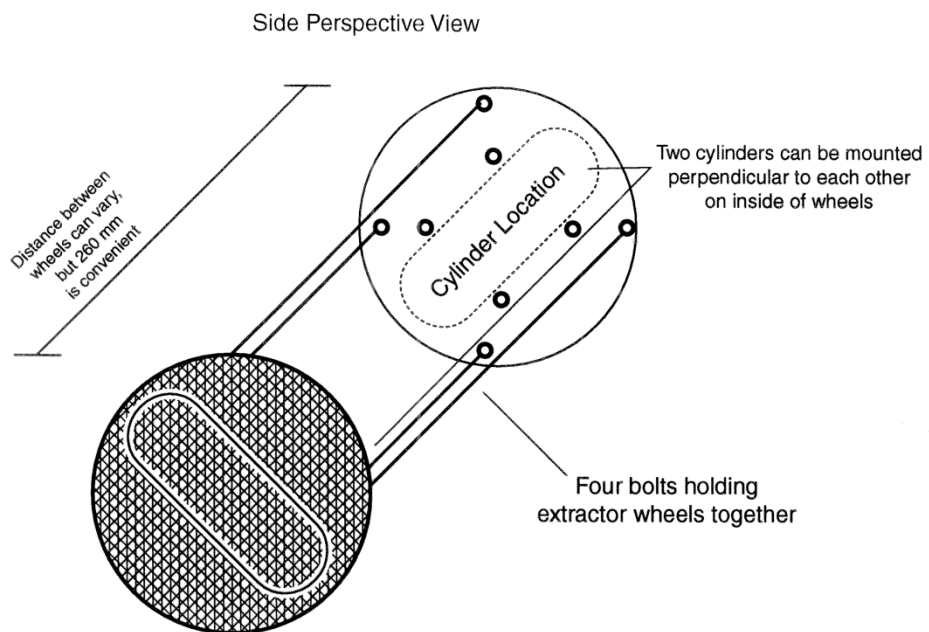

Figure A-2
5. Connect the wheels as shown in Figs. A-2 and A-3, using the threaded rods, washers and nuts as indicated.
- Two extractions can be performed simultaneously, as indicated in Fig. A-2.